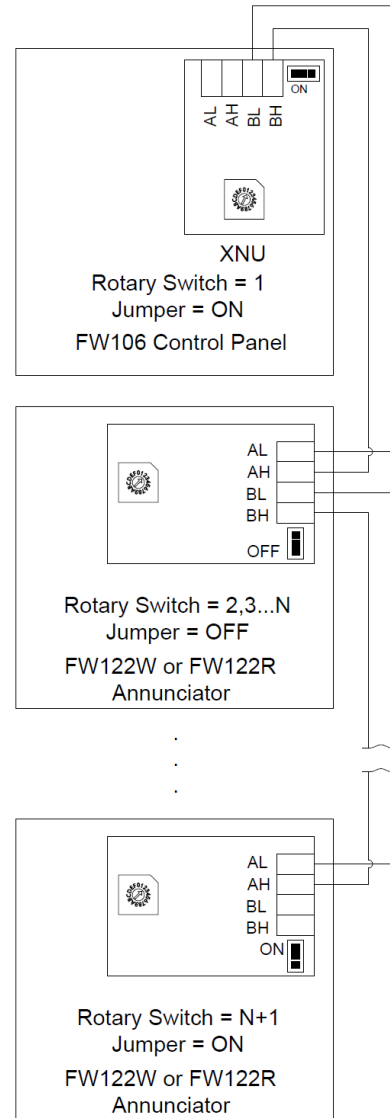

Figure 5. External Network Circuit
2. External network circuit (class B, power limited) can address up to 4 remote annunciators. When connecting annunciators on the external network circuit, the data wires must be daisy chained and with no T-taps to preserve the integrity of the data. The rotary switch and jumper should be set correctly as shown in figure 5.